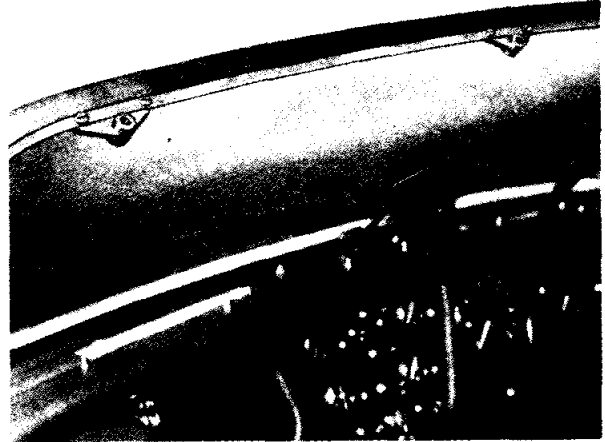

Fig. 4 Hard top Attachment Brackets fitted to Windscreen.
- (f) Remove the canopy from the car and drill the windscreen beading. Transfer windscreen brackets from the canopy to the beading and secure with the fixing screws. (Fig. 4).